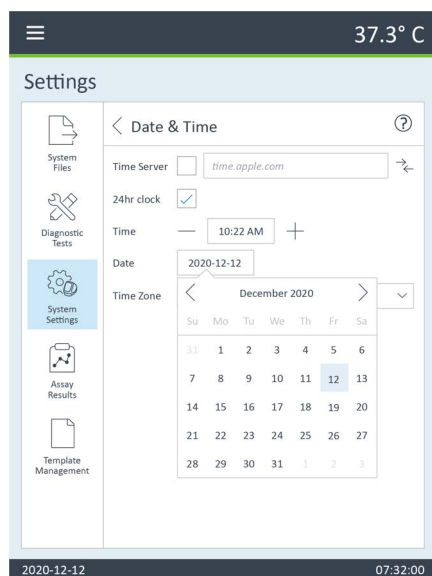

Figure 38. Configure date and time for the XF HS Mini Analyzer
- 2 Select the **Date and Time** settings tab. (Figure 38)